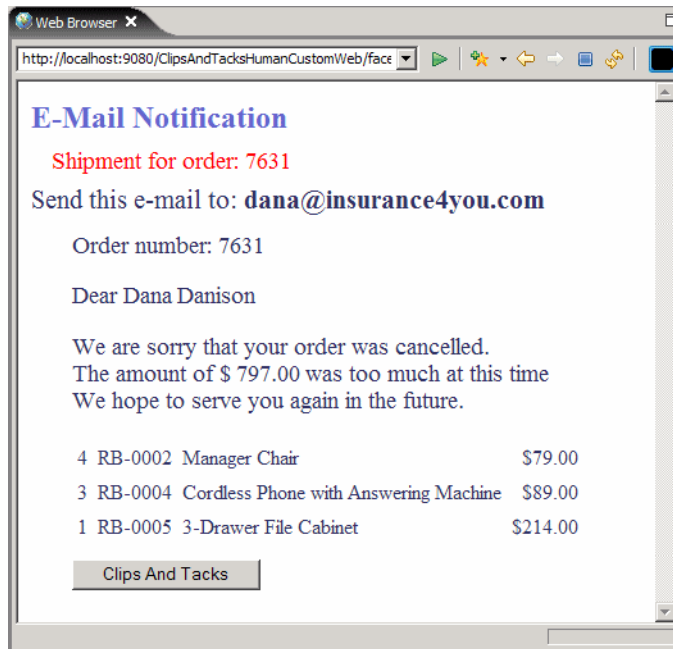

Figure 9-59 Human task application: e-mail notification
- ▶ Click *Complete* to process the order and send an e-mail notification (Figure 9-59).